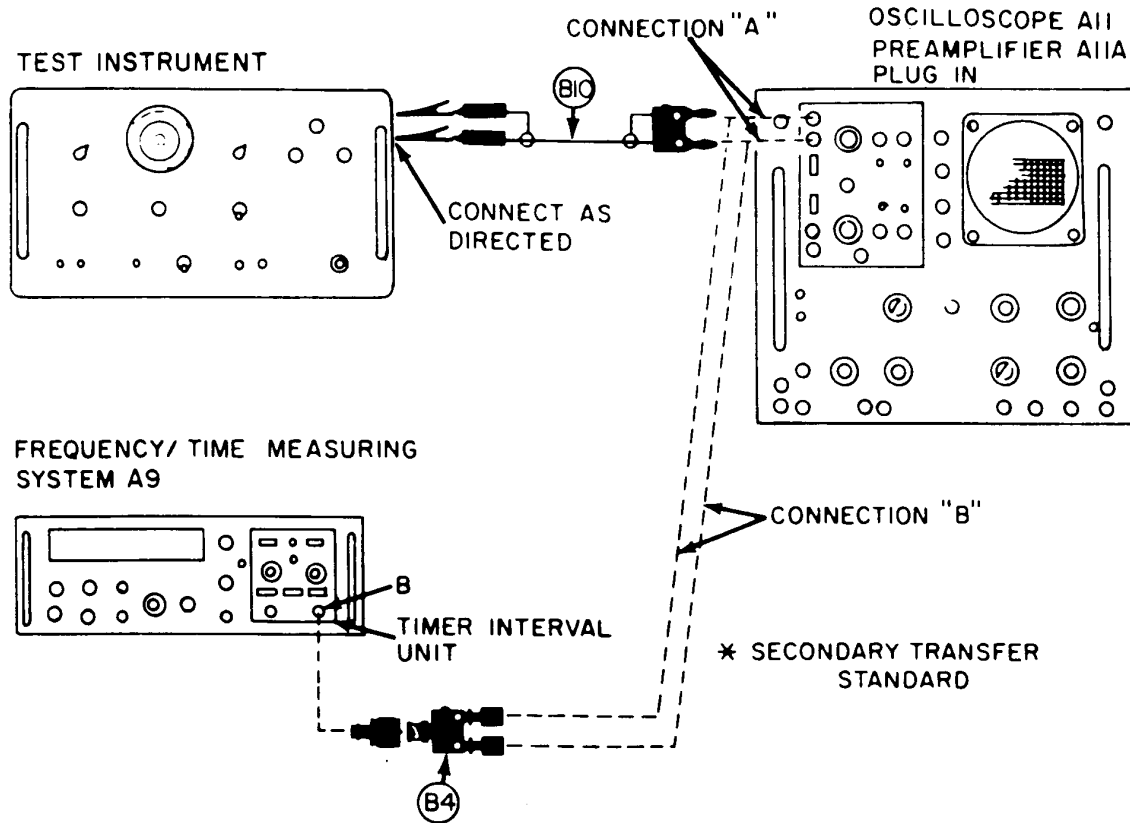

Figure 5. Sawtooth amplitude calibration - equipment setup.
(1) Connect the equipment as shown in figure 5, connection "A".
- (1) Insure that REP RATE control is turned to fully clockwise position.
- (2) Adjust the controls of the oscilloscope until a stable presentation of three sawtooth waveforms is observed. The waveforms should be free of distortion.
- (3) Connect the equipment as shown in figure 5, connection "B".
(4) Frequency/time measuring system should indicate from 48,000 to 52,000 usec.
(5) Turn REP RATE control on the test instrument fully counterclockwise. The frequency/time measuring system should indicate from 666,666 to 2,000,000 usec.